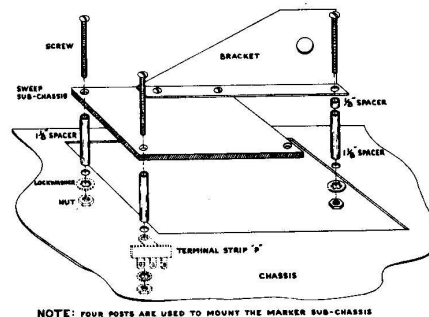

Figure 10
- ( ) Remove the screw holding terminal strip AC in place on the marker oscillator chassis and insert a 6-32 x 1 1/2" screw in its place. Place 6-32 x 1 1/2" screws through the other three corner holes. Do not install nuts on these screws. See Figure 10.